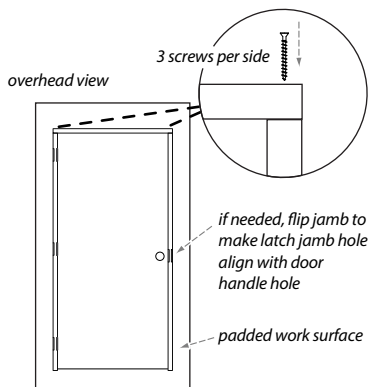

Figure 3
- b. Attach head jamb and then strike jamb using provided screws (figure 3). Make sure install channel lines up with hinge jamb. **Careful not to over tighten so as to avoid splitting the wood.**